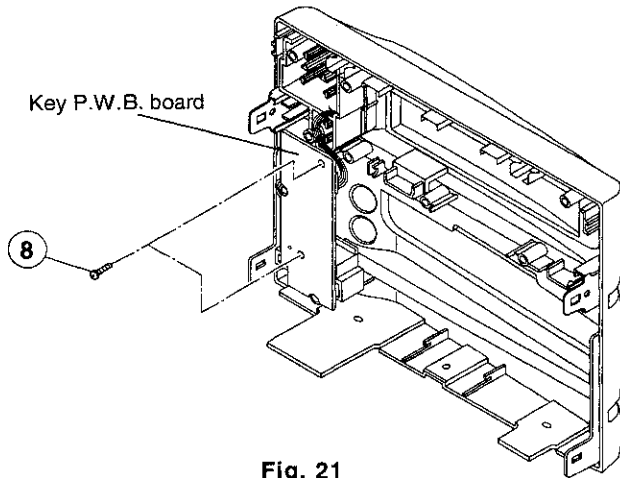

Fig. 21
(1) Remove 6 screws ⑩ from the Display P.W.B. Board. Then remove the Display P.W.B. Board by releasing a hook on the front panel.
8. **Removal of Key P.W.B. Board (Fig. 21)**